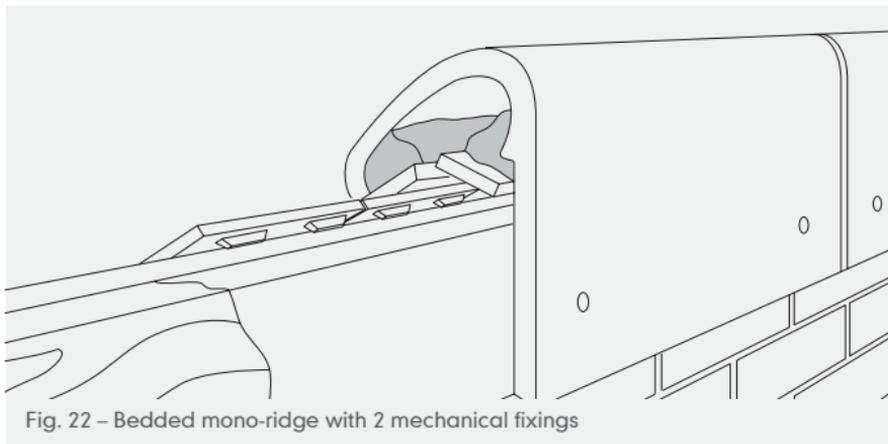

Fig. 22 – Bedded mono-ridge with 2 mechanical fixings
- 2 Lay mono-ridge tiles for clay plain tiles as standard ridge tiles and mechanically fix each by using 2 No. 50mm x 10g stainless steel screws (supplied) to timber fascia behind vertical leg (Fig. 22).